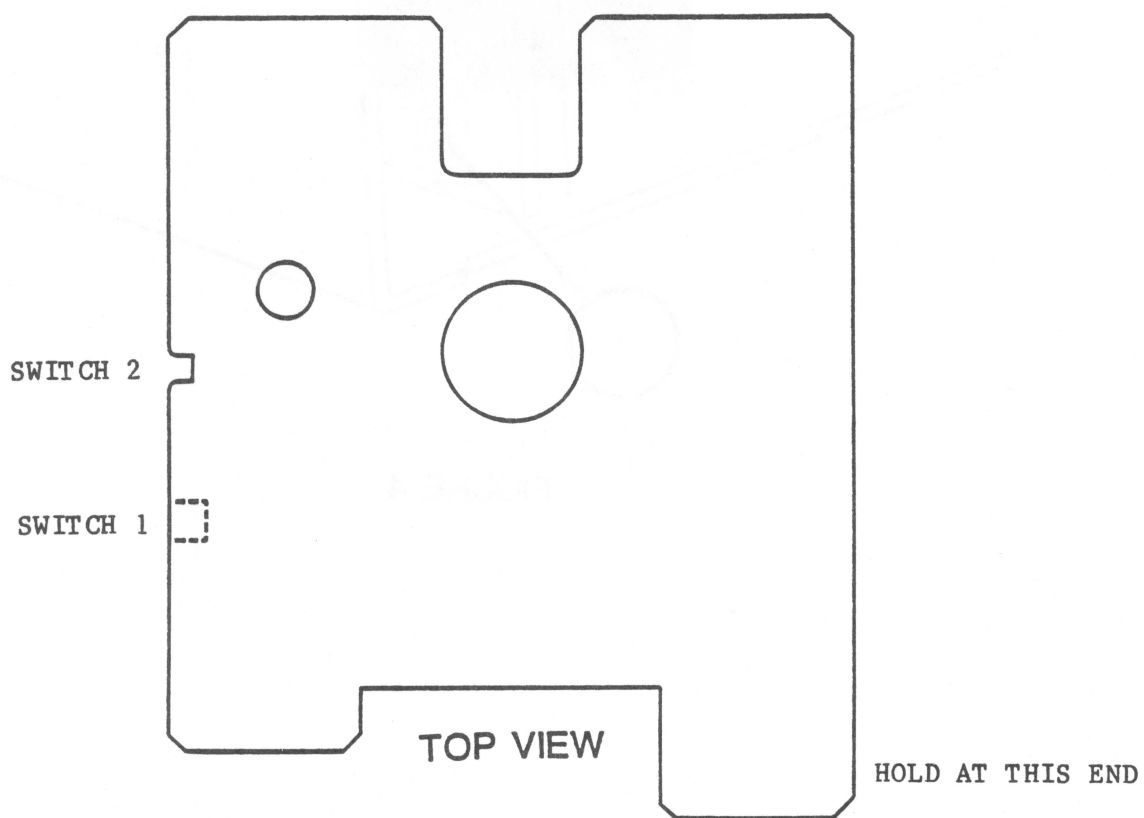

FIGURE 6
7. Holding the Disk Alignment Tool as in figure 6, insert it all the way into the drive and leave the drive door open; then turn the disk drive upside down.